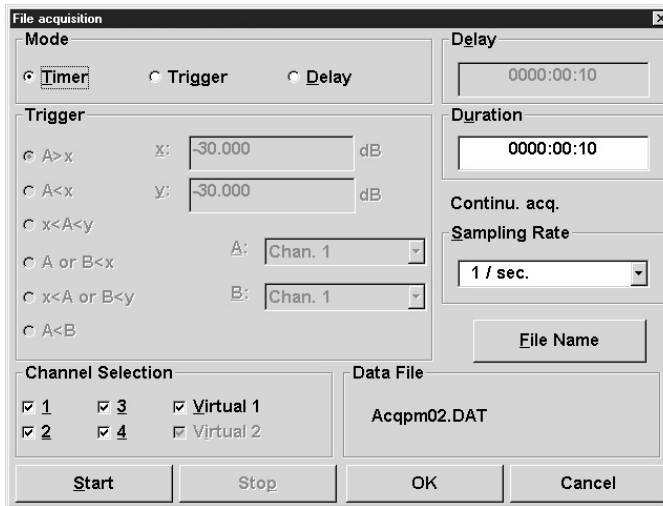

Figure 5-3. File Acquisition Window
- 2.** In the *General* section, click on *File Acquisition* to open the *File Acquisition* window, illustrated in Figure 5-3.